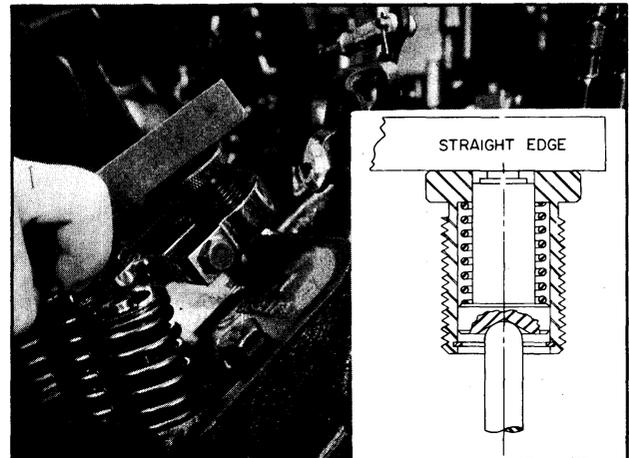

Fig. 8-41 Adjusting Tool J-5374
- (Rear-most push rod). (See Fig. 8-41) The 7/16" diameter pilot at bottom of tool will fit into cylinder head bolt hole.
4. Screw main body of gauge down so the step plunger contacts the push rod and the small diameter of the step plunger is flush with the top of the main body as shown in Fig. 8-41. Tighten clamp bolt.